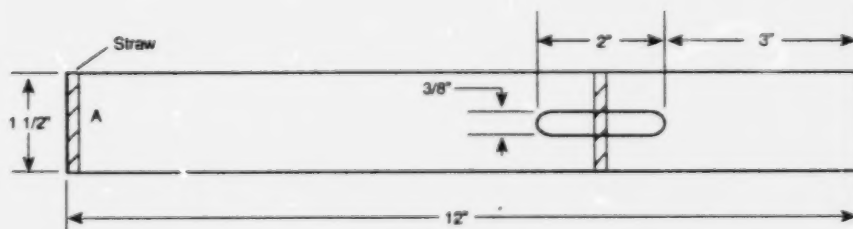

Figure 25 - Arms
10. Cut two pieces of plywood $\frac{1}{4}$ " x $1\frac{1}{2}$ " x 12." Drill $\frac{3}{8}$ " holes in one piece to make slot as shown in Figure 25. File slot smooth. Sand all edges.